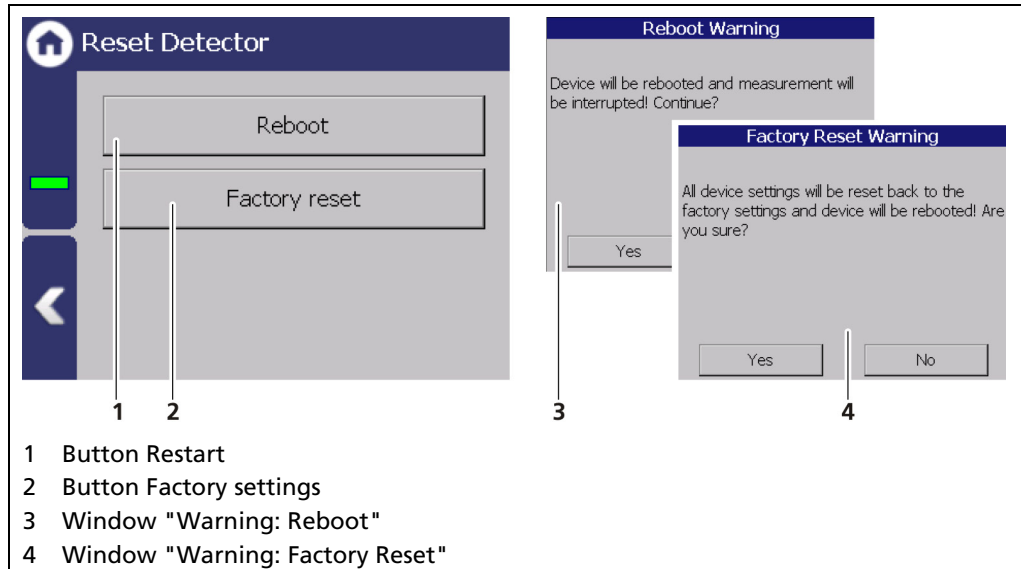

Fig. 72 Reset Detector
1. To restart the Detector, click the button <Reboot> (Fig. 72, item 1).
- ▶ A window with a warning "Reboot" (Fig. 72, item 3) opens.
1. To reset the detector to the factory settings, click the button <Factory reset> (Fig. 72, item 2).
- ▶ A window with the warning Factory settings (Fig. 72, item 4) opens.